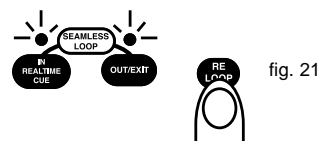

fig. 21
- (5) To replay loop, press the RELOOP BUTTON (23). IN REAL TIME and OUT/EXIT LEDs and LOOP INDICATOR (37) in LCD DISPLAY (8) will all begin flashing again (figure 21).